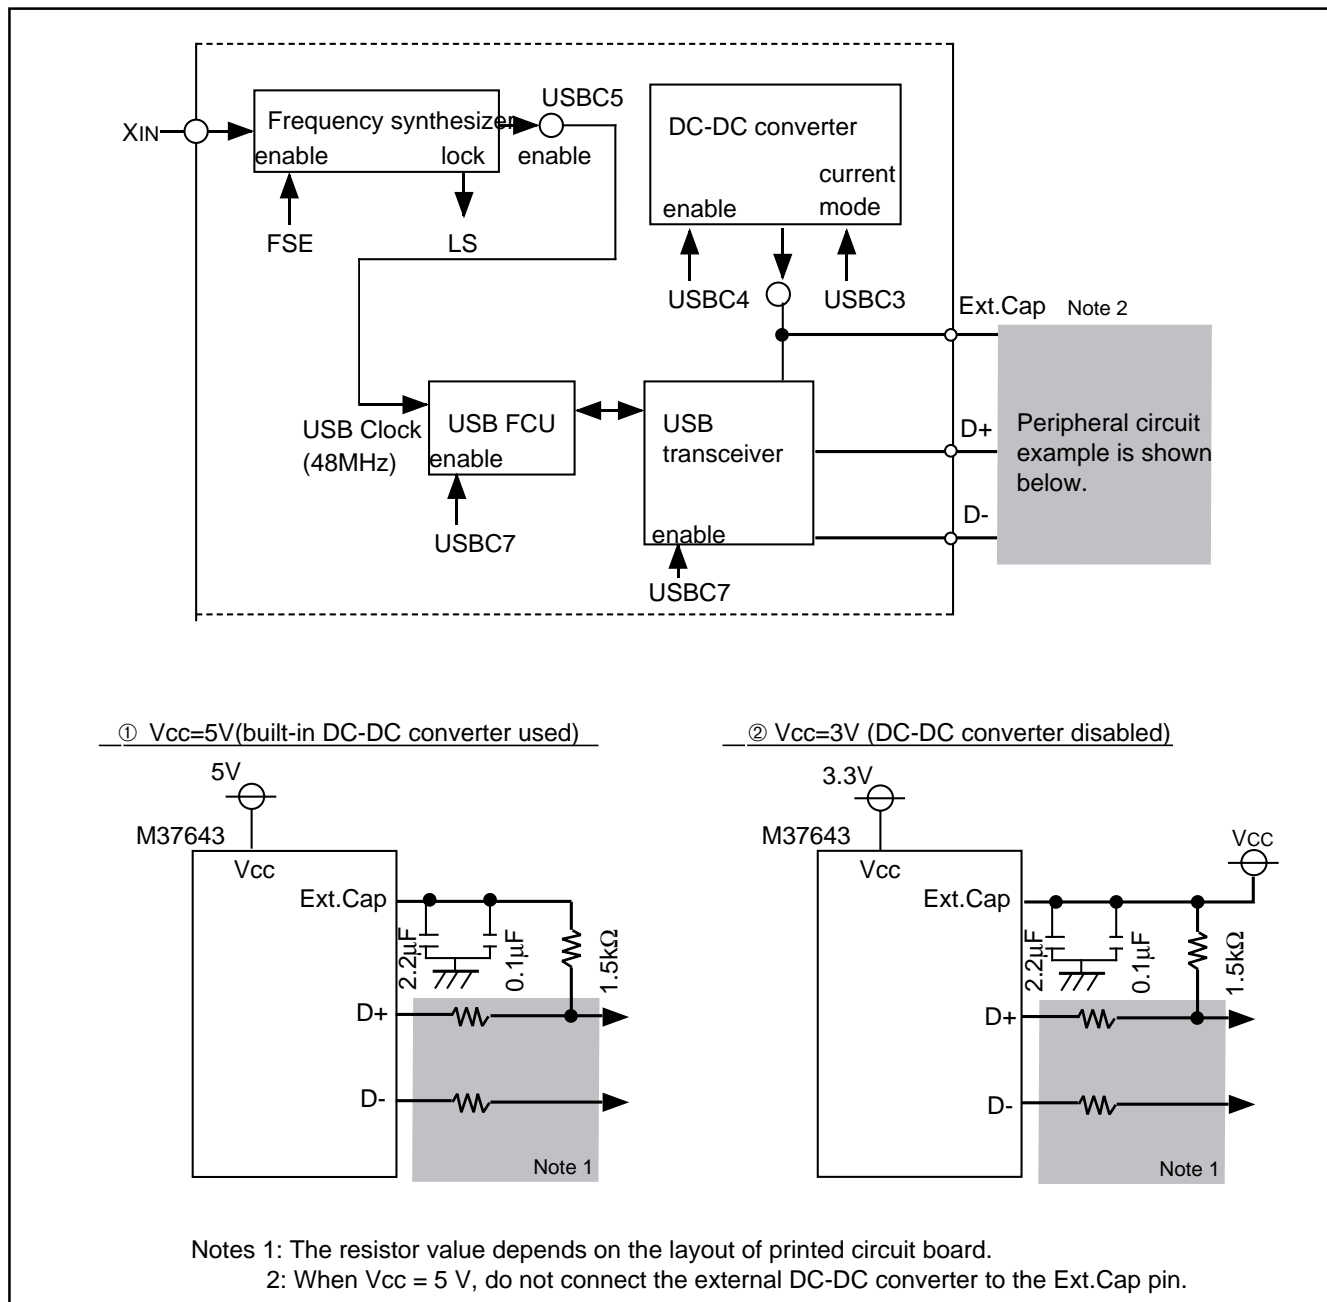

Fig. 2.6.58 Peripheral circuit example
- Figure 2.6.58 shows a peripheral circuit example of the external capacitor (Ext. Cap) pin. Connect a low-frequency 2.2  $\mu F$  Tantal capacitor and a 0.1  $\mu F$  ceramic capacitor (X7R type recommended) in parallel between the Ext. Cap pin and the Vss pin. In addition, connect a 1.5k $\Omega$  ( $\pm 5\%$ ) resistor between the Ext. Cap pin and the D+ pin.